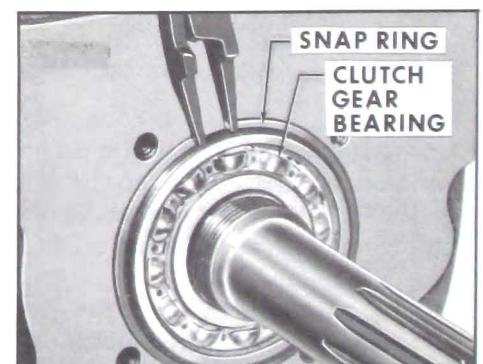

Figure 4-22—Clutch Gear Snap Ring Removal
8. Remove clutch gear bearing snap ring. See Figure 4-22.